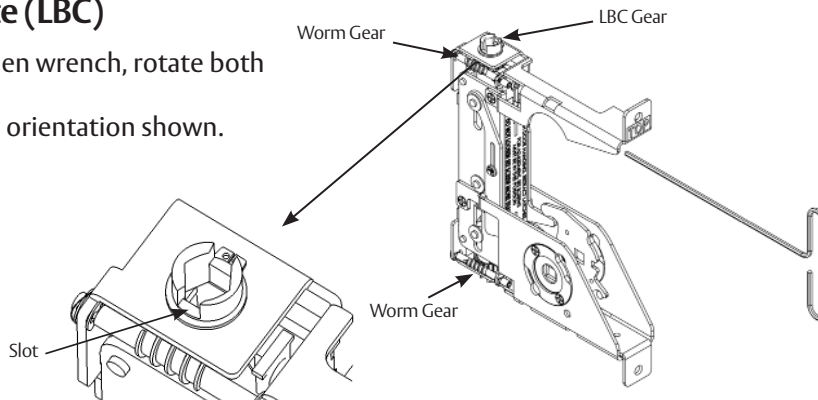

Figure 36
- Using the supplied 3/32" Allen wrench, rotate both LBC worm gears to align slots in the LBC gears to the orientation shown. (Figure 36)